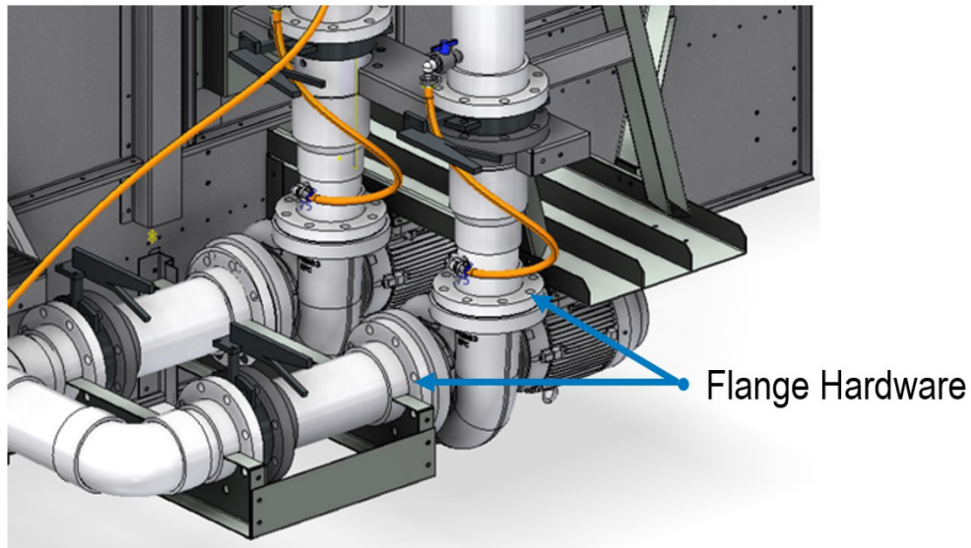

Figure 19. Pump Volute Flanges
4. Loosen and remove the flange hardware and gaskets from the suction and discharge flanges of the pump volute. See **Figure 19**. Pump flange connection uses 3/4"x3-3/4" hardware. NOTE: Do not remove hardware from the discharge or suction valves.
2. Attach the flange hardware and gaskets to the suction and discharge flanges of the pump volute. See **Figure 19**. Pump flange connection uses 3/4"x3-3/4" hardware. Torque flange hardware to 40 ft-lbs. Do not overtighten.